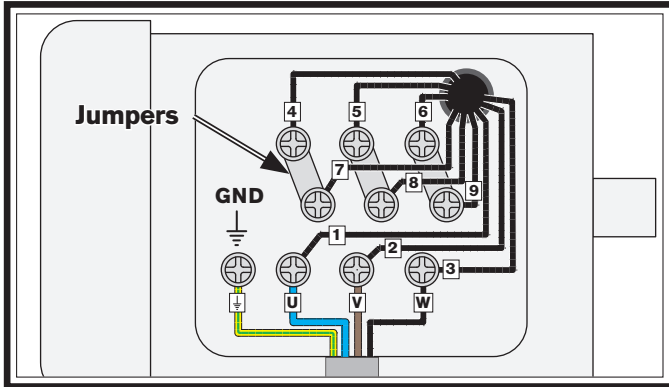

Figure 54. 440V Jumper locations.
- Without changing the location of any of the wires, reposition the jumpers as shown in **Figure 54**. Stack the jumpers as needed, since there will be two extras.